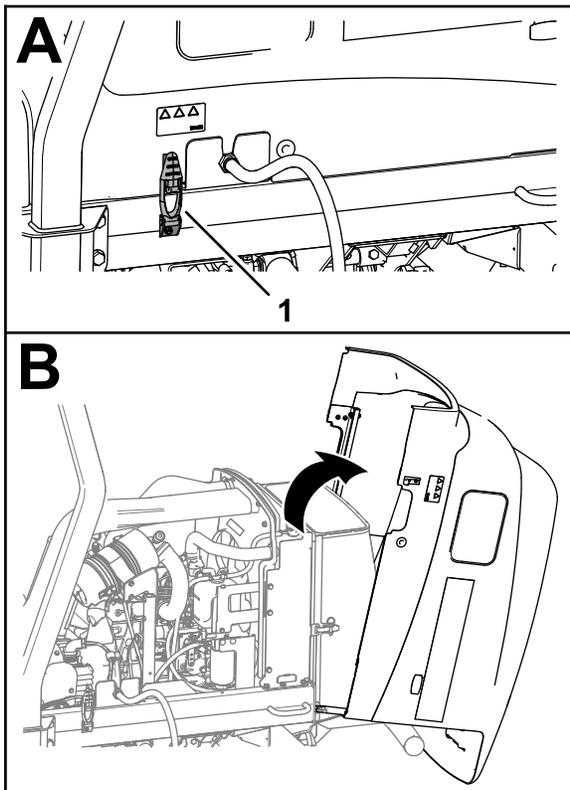

Figure 64
1. Release the 2 hood latches (Figure 64).